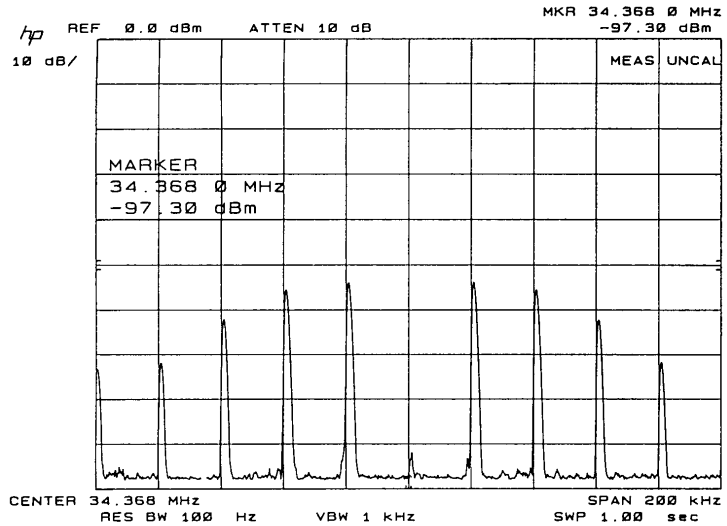

Figure 3-45
5. Adjust the HP 37717C jitter amplitude until the first **Bessel Null** is observed on the Spectrum Analyzer i.e first dip in the carrier level. (As an example, Figure 3-45 shows the first Bessel Null for 34MHz.)